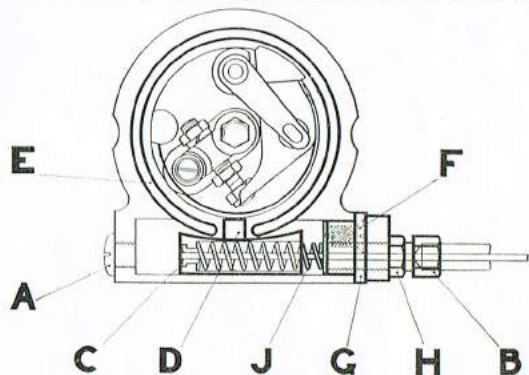

Fig. 10. Section of Spring Control.
Remove the screw (A) (Fig. 10), and then, without dismantling any part of the control, thread the Bowden Cable through the cable stop (B). Pass it through the control until it emerges at the hole left by the screw (A). Now solder the brass nipple (C) to the end of the cable, and then pull it from the other end until it is felt that the nipple fits into the end of the main body of the plunger (D), when the screw (A) should be replaced.
By referring to Fig. 10, it will be seen that on applying a tension to the Bowden Cable, the plunger (D) will move the cam ring (E) and so alter the timing of the magneto.